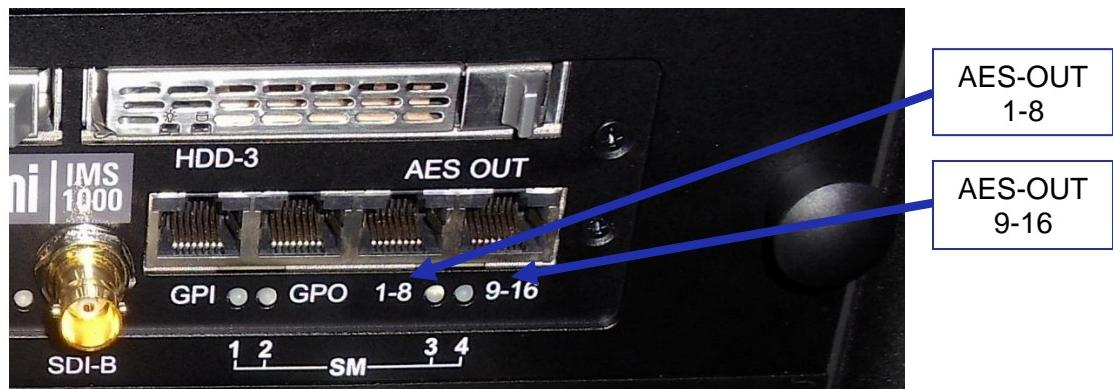

Figure 49: Audio Connectors
- Plug one shielded CAT5 or CAT6 cable end into the connector labeled AES-OUT 1-8 on the IMS1000 board (Figure 49).
- Take another shielded CAT5 or CAT6 cable and plug the end into the connector labeled AES-OUT 9-16 (Figure 49).